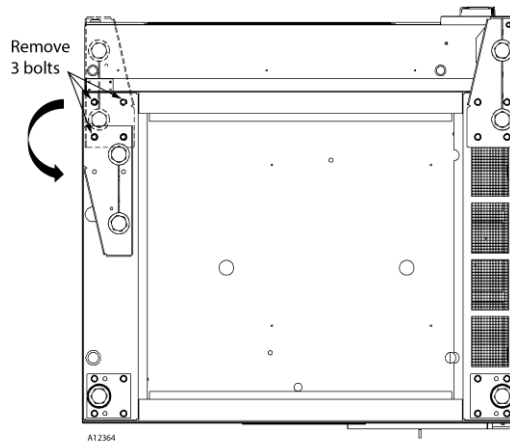

Fig. 6
3. Release and rotate one or both Front Leg Plates, from the underside of the cabinet remove the three (3) bolts indicated below in Fig 6.